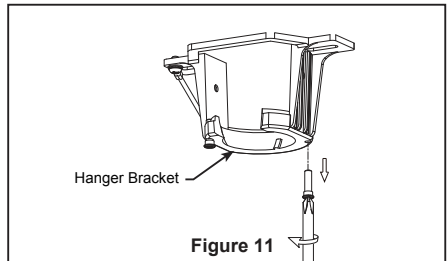

Figure 11
- ☐ 11. Remove one of the two shoulder screws in the hanger bracket and retain the screw for later. Loosen the second shoulder screw without fully removing it. (Figure 11)